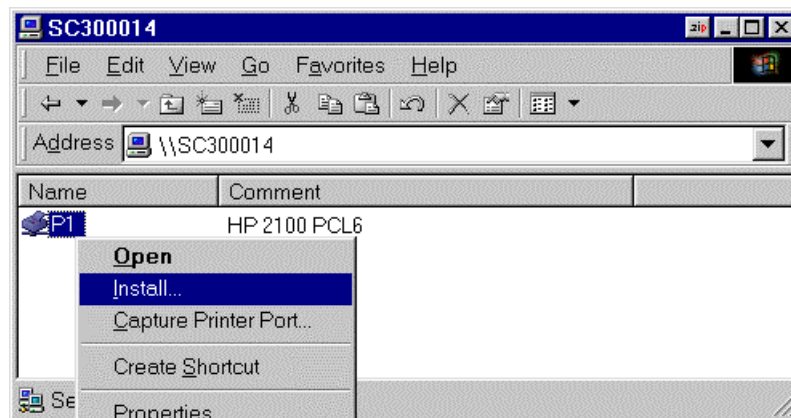

Figure 8: Install SMB Printer
- OR, using the **Capture Printer Port** menu option shown in Figure 8 above.